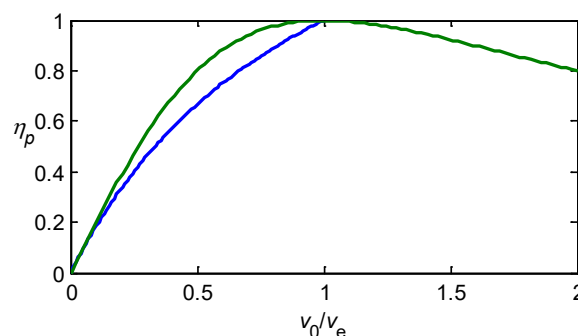

Fig. 2. Propulsion efficiency, η_p , vs. flight speed to exit speed ratio, v_0/v_e , for a rocket (green line) and an air-breathing engine (blue line).
Propulsion efficiency η_p (i.e. of the propeller itself) is zero at rest, and varies with advancing speed to a maximum value of about $\eta_p=0.9$, as later shown in Fig. 2.
As always, the propulsion efficiency is zero at $v_0=0$ (there is thrust but not propulsion), and grows to 1 as the exit speed decreases towards the flight speed (but contrary to turbojets, the thrust does not approach zero at $v_e=v_0$, and the advancing speed of the rocket may be larger than the exit flow speed, as typical in orbital rockets). Efficiencies (15) and (11) are plotted in Fig. 2.